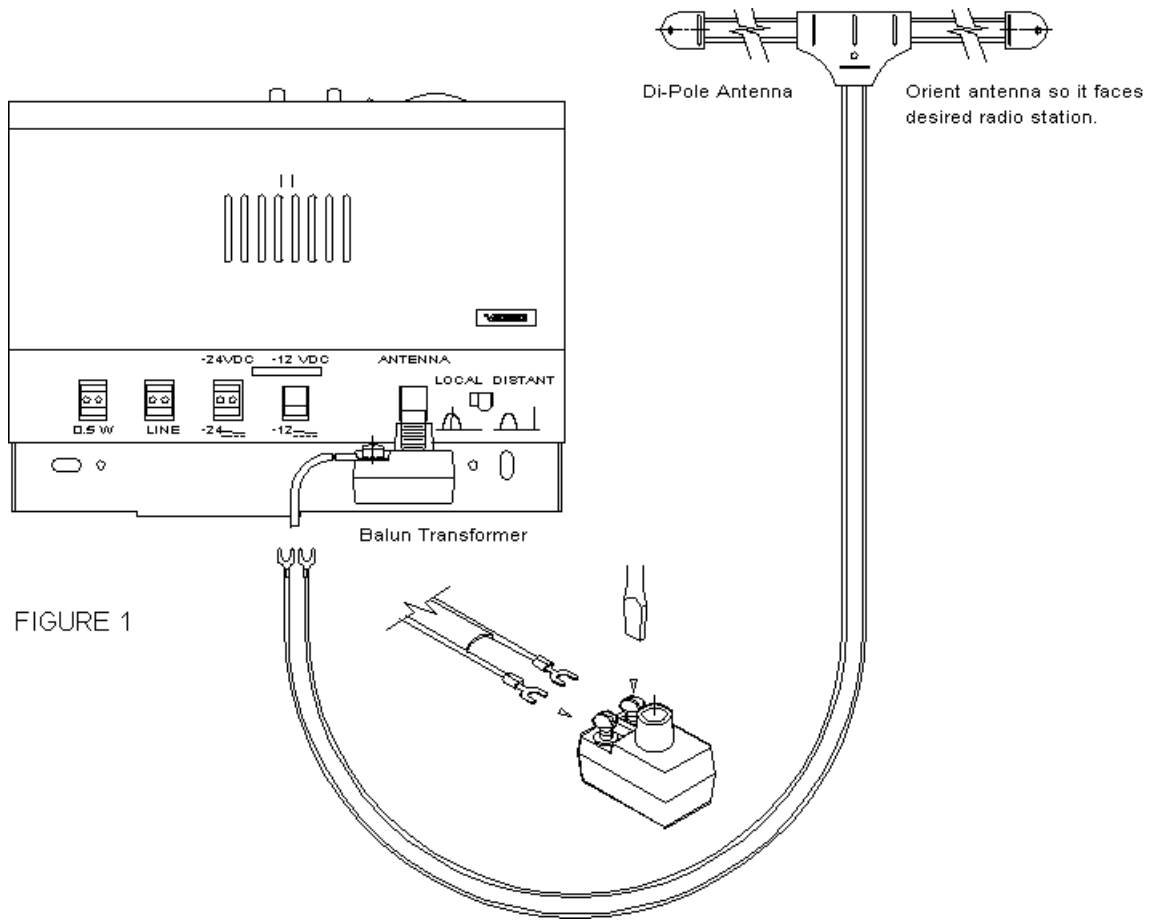

FIGURE 1
If a -12 Vdc power adapter is used, begin with Step 1. For power connections using a -24Vdc power supply start at Step 2. (Refer to Figure 1)
- ___ 7. An external antenna is supplied. Install the supplied balun transformer and dipole antenna as shown in Figure 1 or connect a customer supplied antenna with coax cable to the "F" connector.
If distortion occurs due to close proximity of a strong local station move the LOCAL/DISTANT switch to the "LOCAL" position. (Refer to Figure 1)